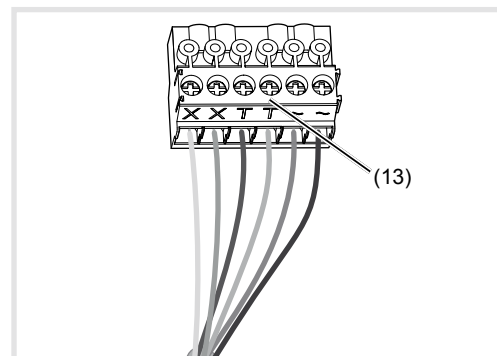

Figure 7: Wired connection terminal block
- Pull off connection terminal block (13) from the video insert.
- Connect the wire pair of the 2-wire bus cable to the terminals **XX** of the connection terminal block (Figure 7).
- Connect door release to the terminals **TT** of the connection terminal block (figure 7 and 8) if required.
- For call push-button backlighting and camera heating connect 12 V~ lead from the power transformer to the terminals of the connection terminal block (Figure 7).